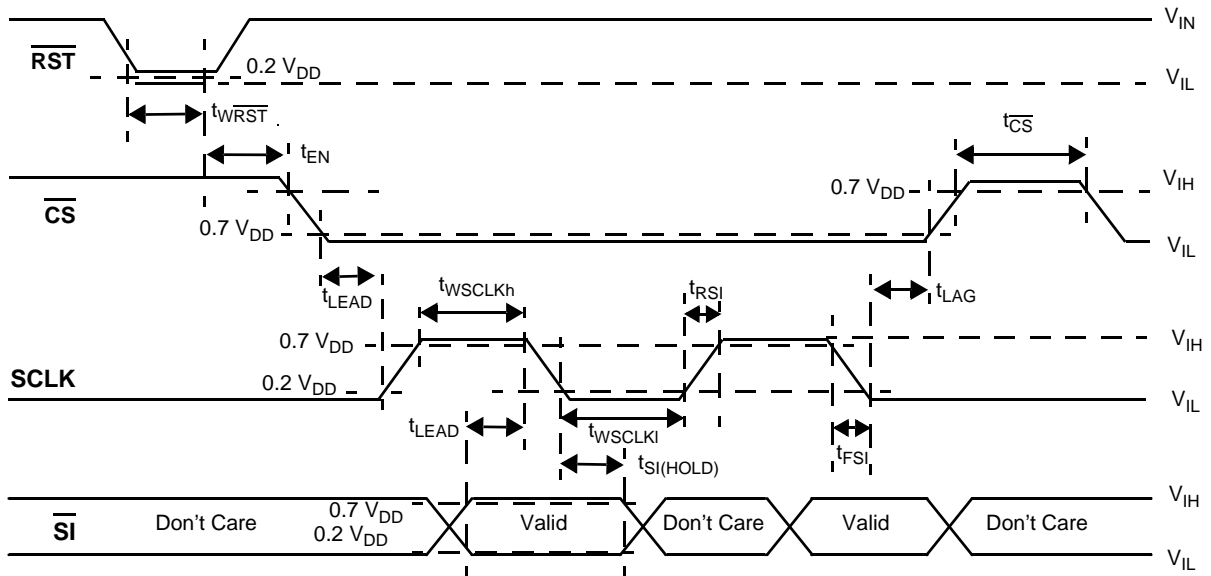

Figure 4. Input Timing Switching Characteristics
16. The device shall meet all SPI interface timing requirements specified in the SPI Interface Timing section of this table, over the temperature range specified. Digital interface timing is based on a symmetrical 50 percent duty cycle SCLK Clock Period of 333 ns. The device shall be fully functional for slower clock speeds. See Figure 4 and 5.